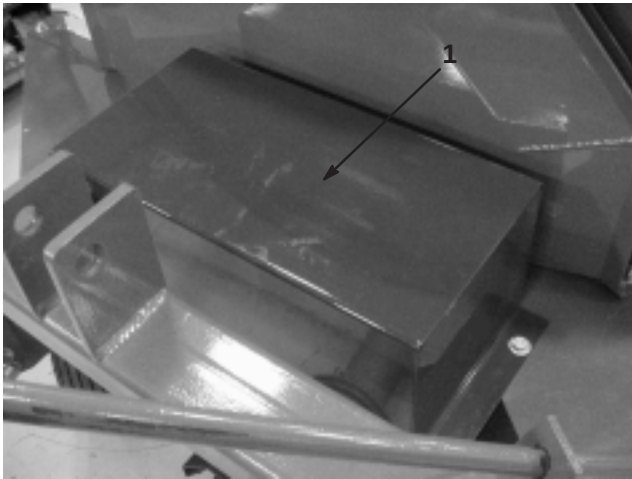

Figure 12
1. Remove the capscrews, washers and nuts securing the belt guard to the blower housing (Fig. 12). Remove the guard.